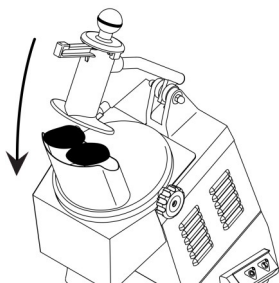

Fig 10 - Load larger product into feed chute
- Lift pusher and load product into feed opening. (Fig 10). Lower pusher and turn machine "ON". Apply light pressure to pusher to assist moving produce through machine.